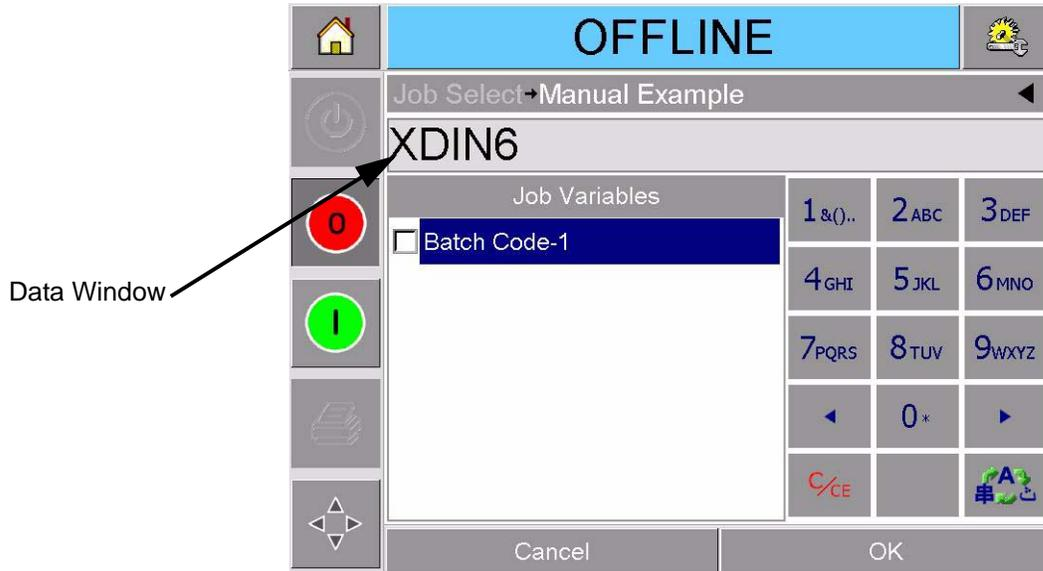

Figure 4-7: Default Data Window
- 1 Touch the required job variable from the list to select it (the first one in the list is automatically selected). The default data for that job variable appears in the data window (Figure 4-7).